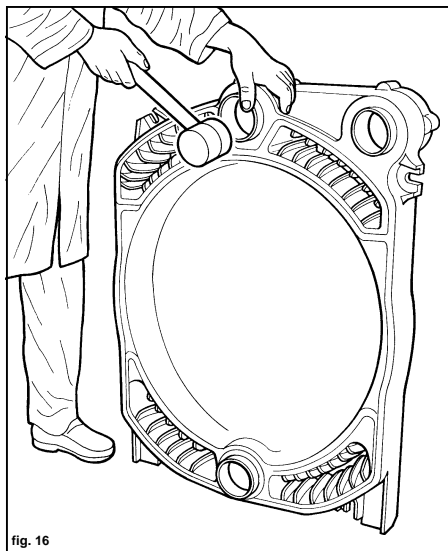

fig. 16
- 4 (fig. 16) Fit the cone insert into its housing, knocking it in with a wooden hammer.